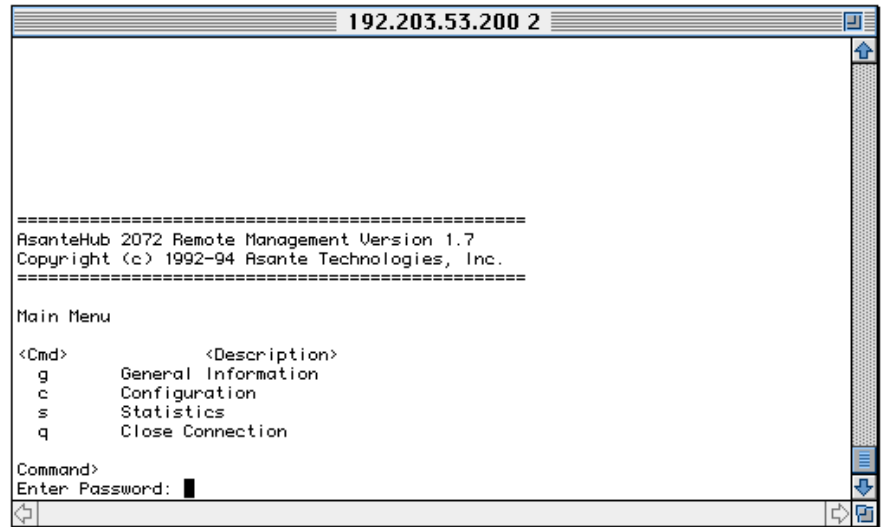

Figure 18 Enter Password Prompt
- 3** Type c from the Asanté Remote Management System Main menu. The prompt “Enter Password” appears below the Command> line, shown in Figure 18.